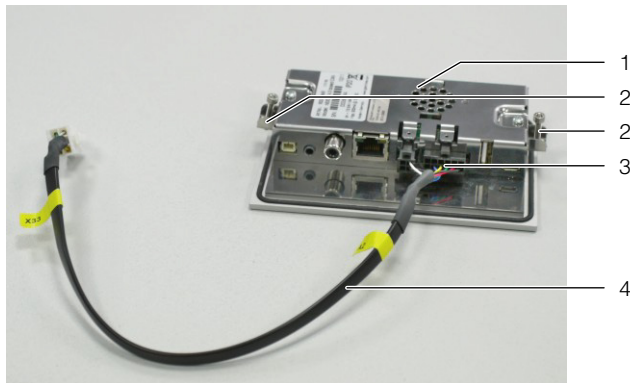

Fig. 36: Preparing the graphic display
- Insert the fastening clamps with screws (Fig. 36, item 2) on the left and right of the display.
- Insert the connection cable (Fig. 36, item 4) into the bottom of the display (Fig. 36, item 3).